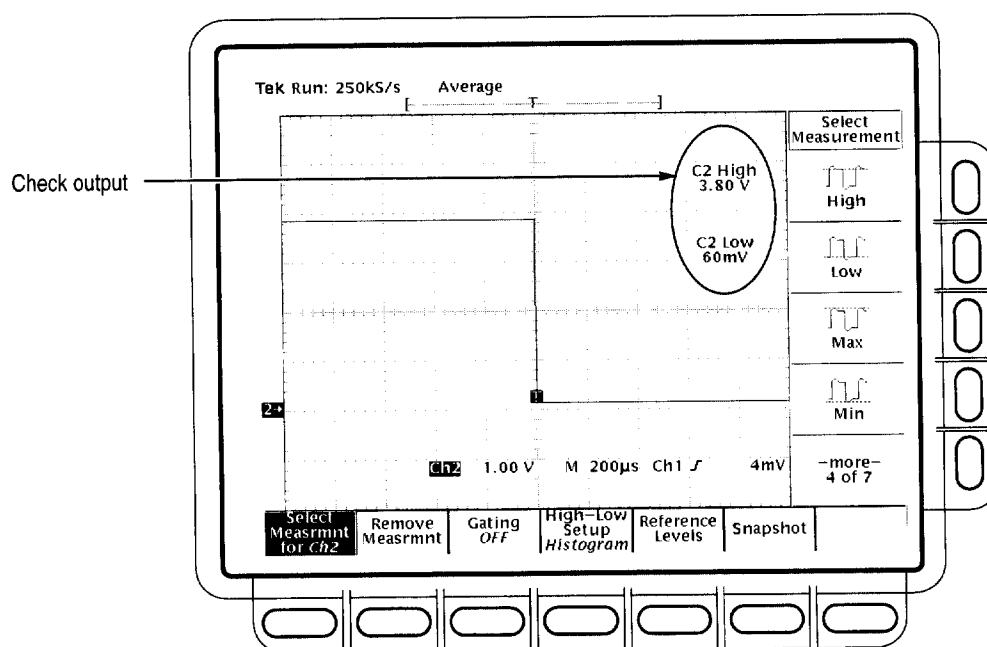

Figure 1–22: Measurement of main trigger out limits
- CHECK that the **Ch2 High** readout is ≥ 2.5 volts and that the **Ch2 Low** readout is ≤ 0.7 volts. See Figure 1–22.
d. *Check Delayed Trigger output against limits: See Figure 1–22.*